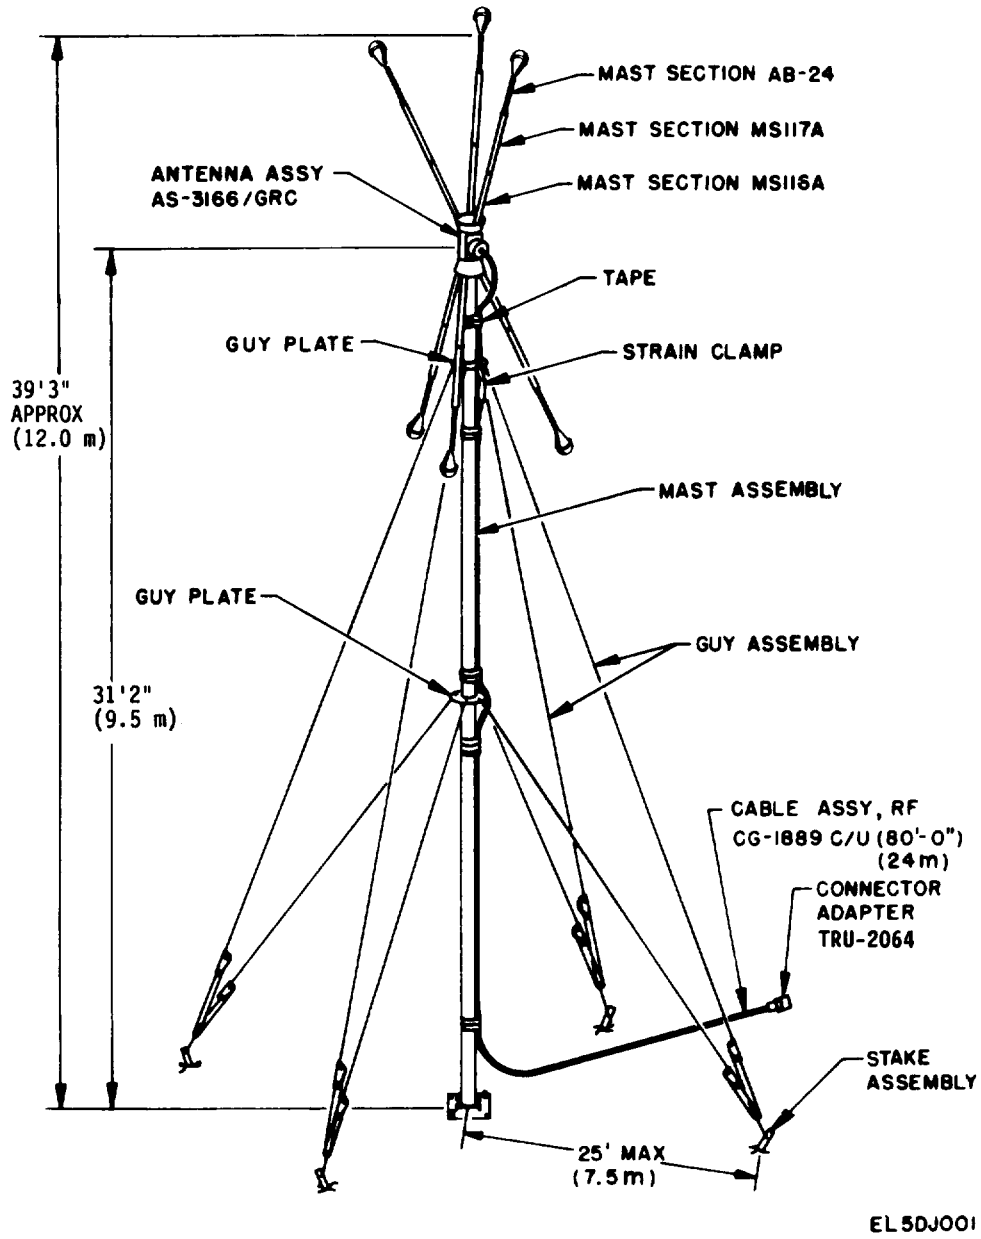

Figure 1-1. Antenna group OE-254/GRC erected.
a. This manual describes Antenna Group OE-254/GRC (fig. 1-1) and provides instruction for installation, operation, and maintenance. It includes instructions for operation under usual and unusual conditions, cleaning and inspection of the equipment, and replacement of parts available to the repair technician.
a. Antenna Group OE-254/GRC (fig. 1-1) is an omnidirectional, biconical antenna designed for broadband operation without field adjustment from 30 to 88 MHz, up to 350 watts.
(fig. 1-1, 1-2, and 1-2.1)
c. *Mast.* The mast consists of five lower and five upper mast sections, a lower adapter assembly, an upper adapter assembly, and a mast and base assembly rising to a height of approximately 28 feet 3 inches (8.6 meters) (fig. 1-1). Each tubular mast section has a male and female end, which permits the sections to be fitted together. The lower adapter assembly mates the lower and upper mast sections into a single unit. The upper adapter assembly is the interface between the mast and the insulating extension of the AS-3166/GRC.
g. Guy Assemblies, Guy Plates, Guy Snubbers, and Guy Stakes. These items hold the mast assembly in the vertical position (fig. 1-1).